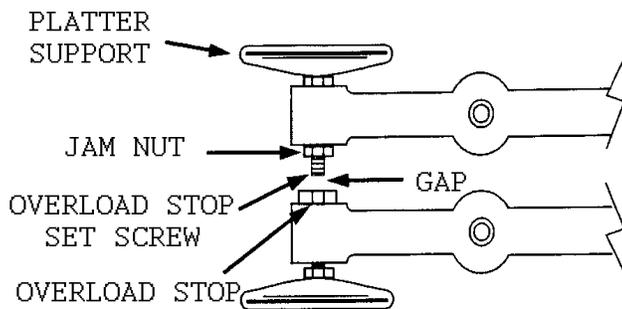

Figure 4.1 View of B Position Gaps
4.1.1. To set the gaps, remove the platter and four platter supports from the top frame. (Refer to Figures 4.1 and 4.2). Apply sufficient weight to the frame to zero the scale.
Table 4.1 Overload Gap Specifications for Figure 4.1